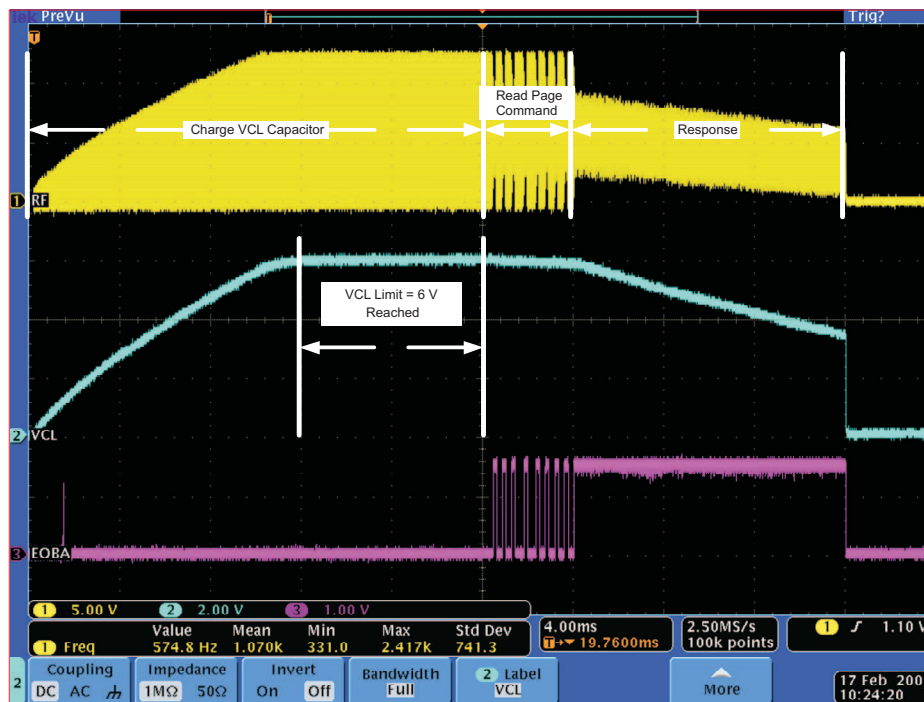
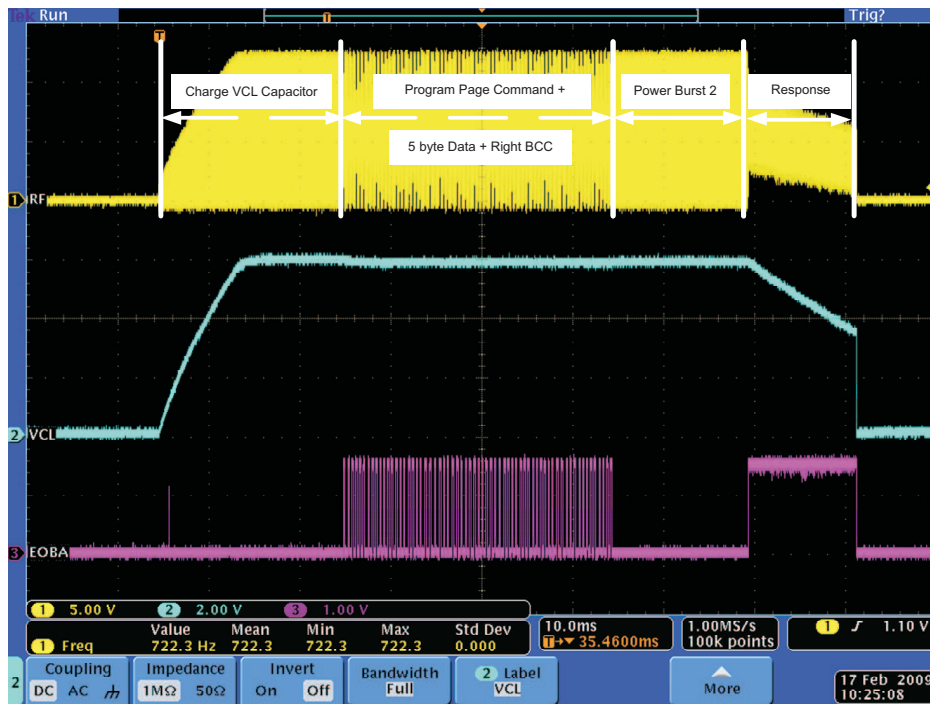

Figure 2. Read Page Command With Response (4 ms/div)
Figure 3. Program Page Command With Correct BCC and Response (10 ms/div)
A typical communication consists of a charge phase of 25 ms to 50 ms, which is followed by the command phase. A read and a program command are shown in Figure 2 and Figure 3, respectively. In both cases the transponder sends its response after it detects a loss of the LF field.
Figure 2 to Figure 4 show a complete communication exchange between a base station and an RFID transponder. All signals are measured at the transponder and have the following meaning:
**Table 1. Signal Overview of Scope Print Outs for Figure 2 to Figure 4**
For a program page command, a 2-byte BCC is transmitted together with the data. Additionally, a second power burst (Power Burst 2, see Figure 3) is needed for programming the EEPROM. If the received BCC (needed for program and lock commands) is wrong or if the VCL level does not reach the VCL checker limit, the transponder performs a discharge without responding (see Figure 4 for a program command with a wrong BCC).